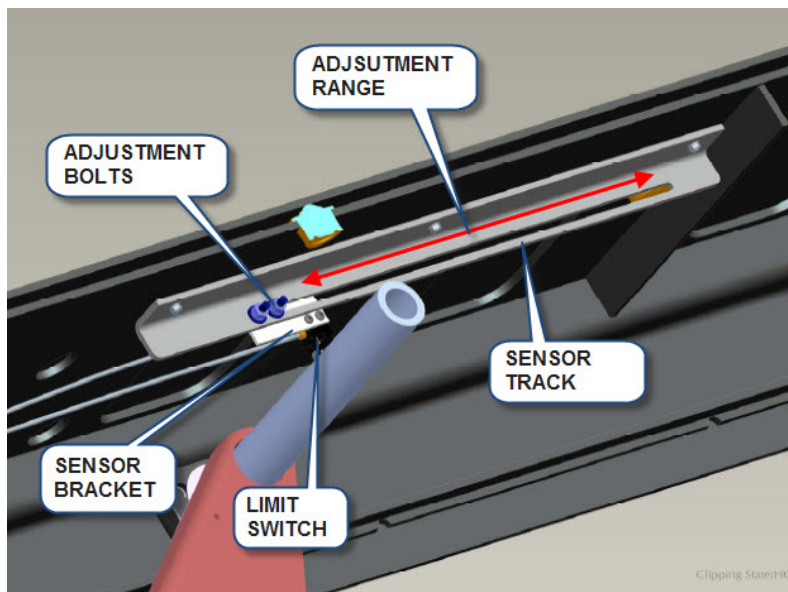

Figure 16 - Upper limit proximity sensor
2. The limit switch (see Figure 16) should automatically stop the lift once the 72" working height (bottom of baseframe to top of runway) is reached.